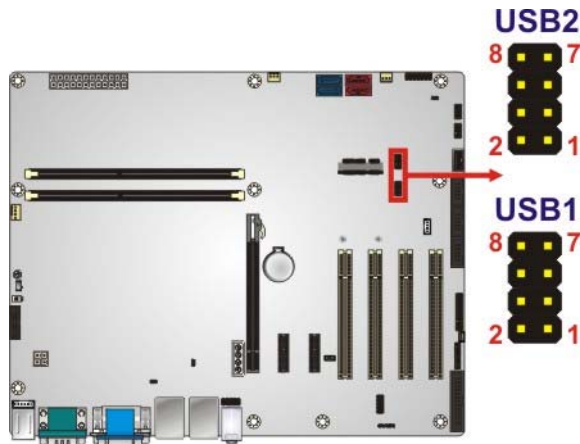

Figure 3-34: USB 2.0 Connector Pinout Locations
- CN Location:** See **Figure 3-34**